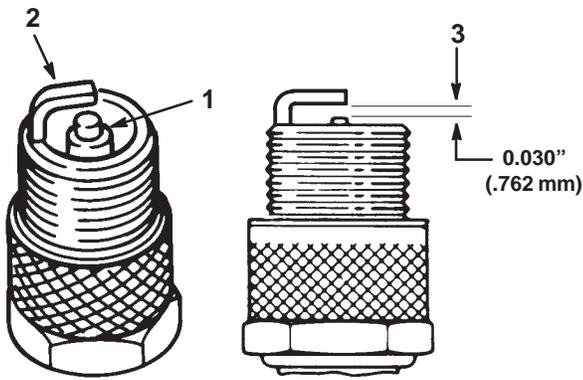

Figure 13
- Look at the center of the spark plug(s) (Fig. 13). If you see light brown or gray on the insulator, the engine is operating properly. A black coating on the insulator usually means the air cleaner is dirty.
- Check the gap between the center and side electrodes (Fig. 13). Bend the side electrode (Fig. 13) if the gap is not correct.